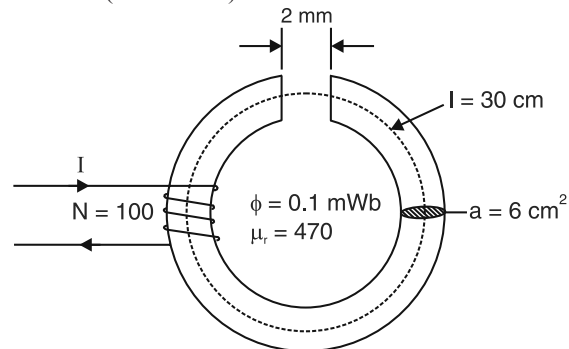

Fig. 8.10
**Solution.** The conditions of the problem are represented in Fig. 8.10. It will be assumed that flux density in the air gap is equal to the flux density in the core i.e. fringing is neglected. This assumption is quite reasonable in this case.